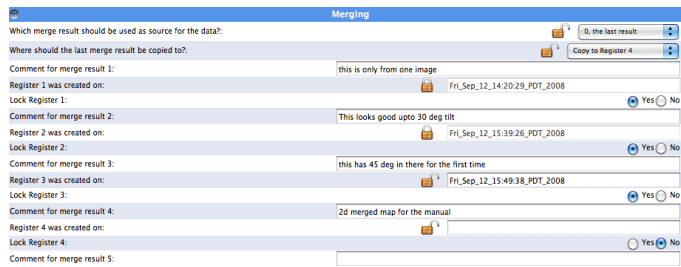

Figure 47: The 2D merged map of the GLPF example data set.
3. The last step of 2D merging is to create a merged projection map through the *Generate Merged Map* script. This creates two kind of 2D maps: one in form of an MRC image and the other in form of a contour plot. For our example data set where we set the symmetry to P4 and the files the images are named *p4-symmetrized final 2D map* and *PS: p4-symmetrized final 2D map plot*. The *p4-symmetrized final 2D map* of the GLPF example data set should look similar to Figure 47.